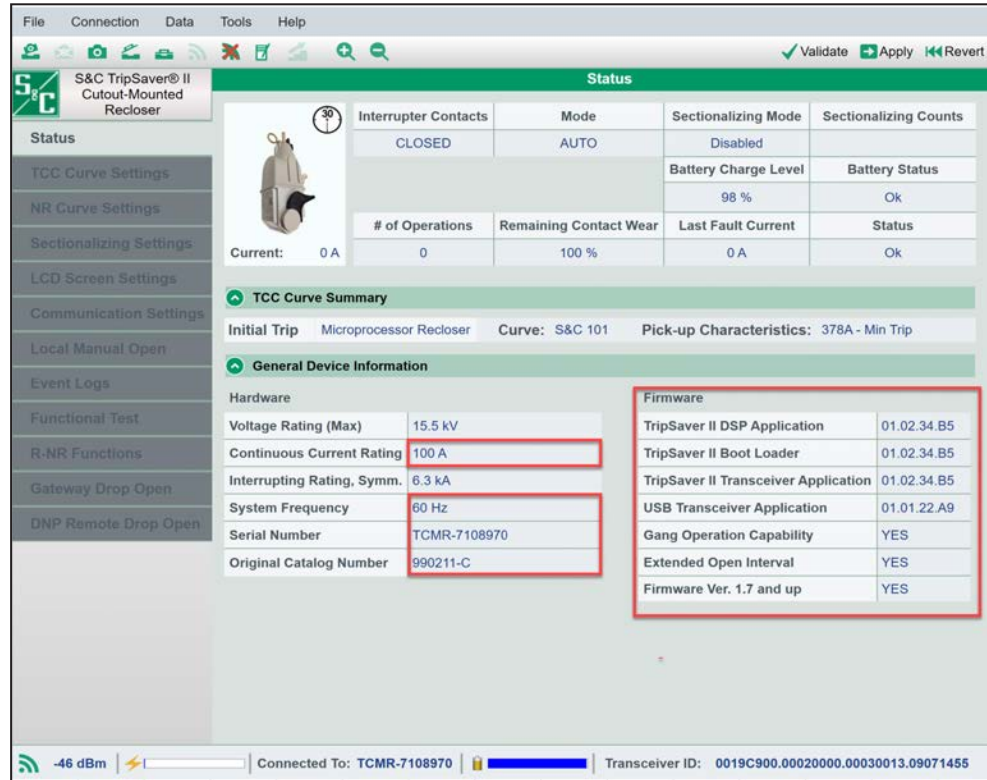

Figure 57. Status screen to check the latest firmware version.
STEP 7. A “Success” message will appear upon successful completion of the firmware update. After the update, check the *Status* screen to make sure the latest firmware has been applied correctly. See Figure 57.